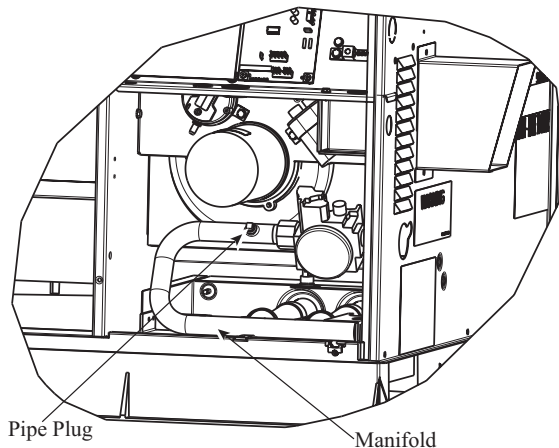

Fig. 10 - Burner Assembly
2. Remove pipe plug on manifold (See Fig. 10) and connect manometer. Turn on gas supply to unit.
4. Turn off gas supply to unit. Remove manometer from pressure tap and replace pipe plug on gas valve. (See Fig. 10.) Turn on gas to unit and check for leaks.